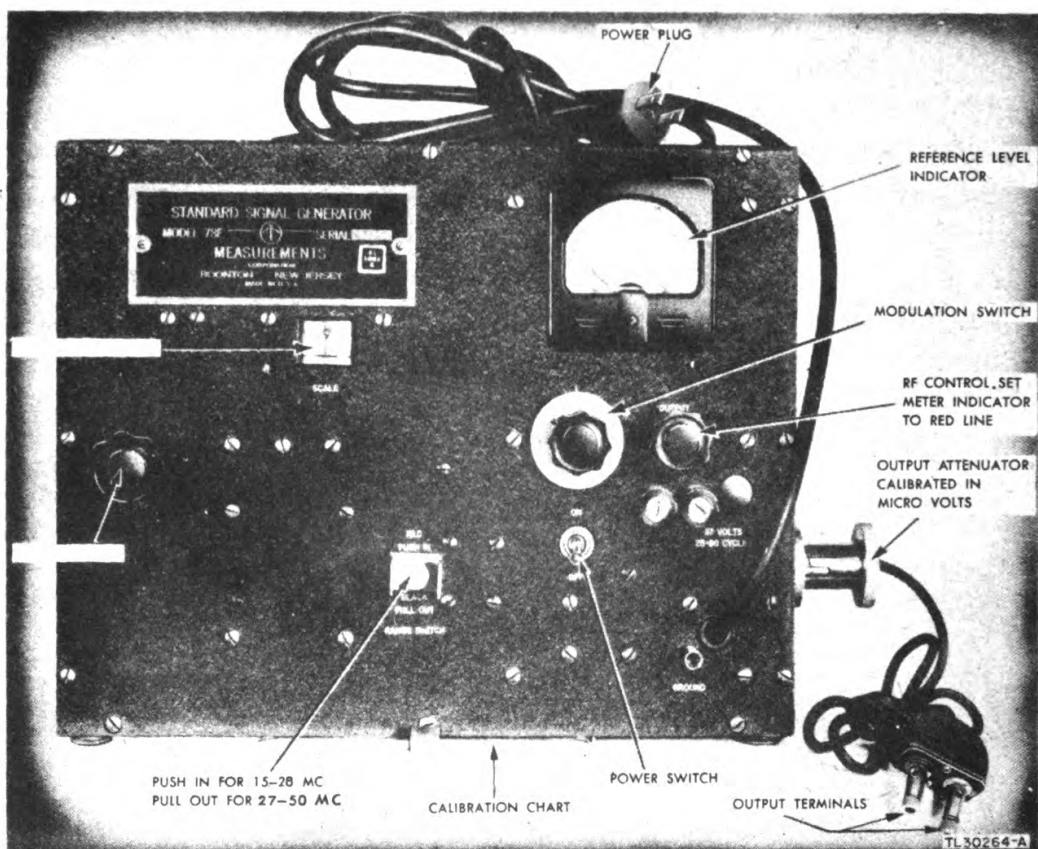

Figure 5. Signal Generator TS-343/U, front view.
8. SIGNAL GENERATOR TS-343/U (fig. 5).